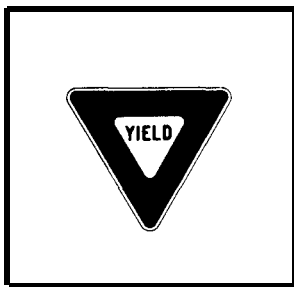

FIGURE 7
b. **Yield Signs.** Yield signs are red triangular signs with block lettering (Figure 7). At such signs, traffic must yield right-of-way to vehicles on the intersecting road; they are used to control the flow of traffic onto or across a road or highway on which the volume of traffic usually is light enough to permit entering the intersection without making a full stop. When approaching yield signs, slow down, enter the intersection cautiously, and be prepared to yield the right-of-way. If traffic is approaching on the other road, stop and wait for a clear, safe space.